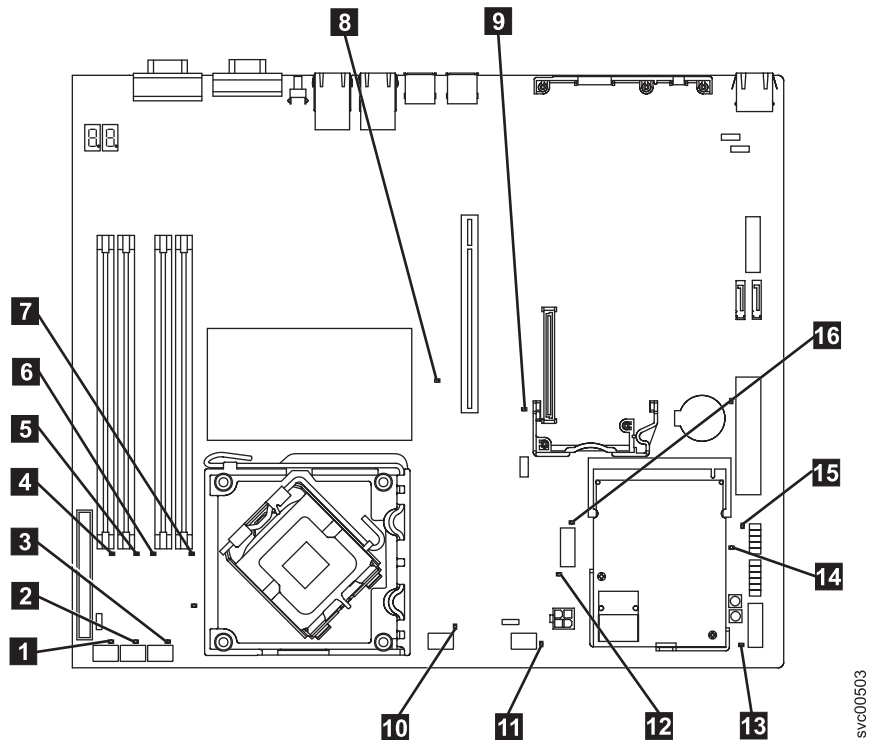

Figure 89. SAN Volume Controller 2145-8A4 system board LEDs
**YES** Identify any diagnostic LEDs on the system board that are on. Figure 89 on page 399 shows the location of the system board LEDs. The fan LEDs are located adjacent to each fan. You can ignore the three LEDs that do not indicate an error: **13** , **14** , and **15** .